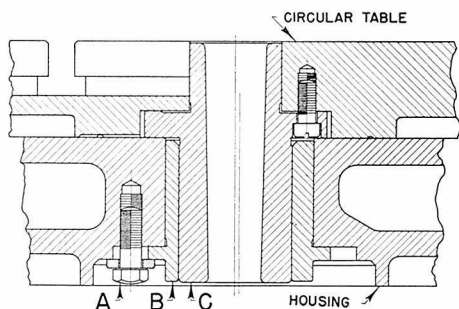

Figure 79
4. Loosen the two hex head screws "A-A" from the bottom of the housing. (Fig. 79)